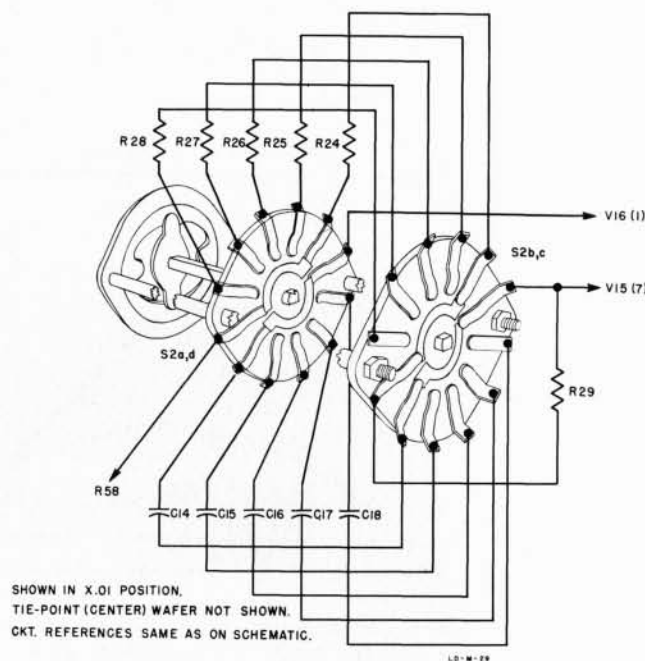

Figure 4-3. Rear View of S2 Range Switch
8) Check the calibration of the "X1" range. The output frequency should be within $\pm 2\%$ of the dial reading over the entire range. Adjust by substituting different resistor values for R26. The location of R26 is shown in Figure 4-3.